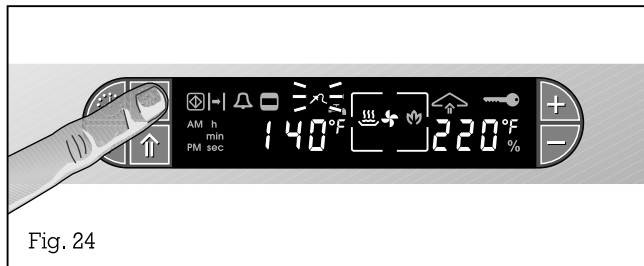

Fig. 24
- Press the  (Core temperature sensor) key twice. The  (Core temperature sensor) symbol flashes and the suggested value of 60 °C can be seen on the display (Fig. 24).